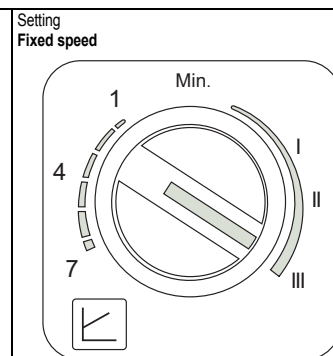

fig. 18
**- Setting Fixed speed (fig. 18)**